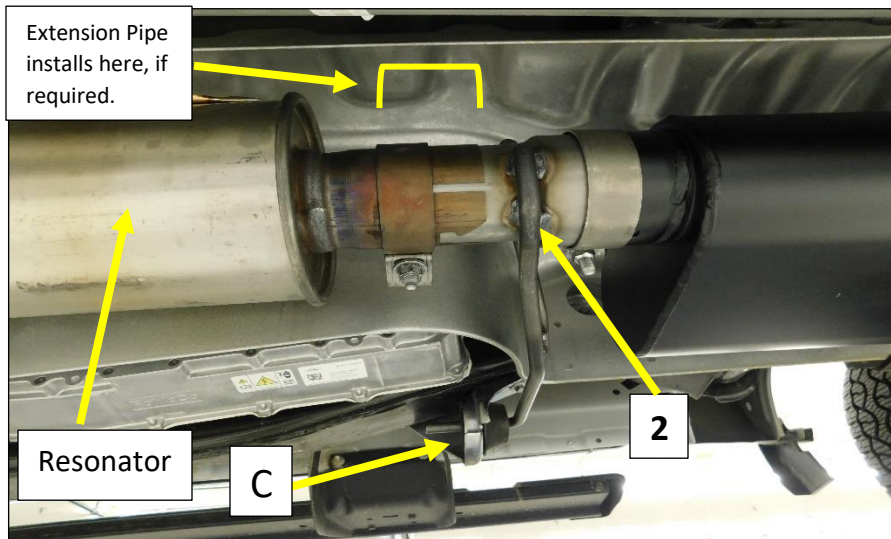

Figure 4
1. Install the muffler inlet pipe (2) into the resonator. **Fig. 4**
2. Install the muffler frame hanger (C) on to the inlet pipe hanger rod. Install the (x3) bolts and tighten. **Fig. 4**
3. Tighten the OEM clamp at the resonator to allow for adjustment. **Fig. 4**